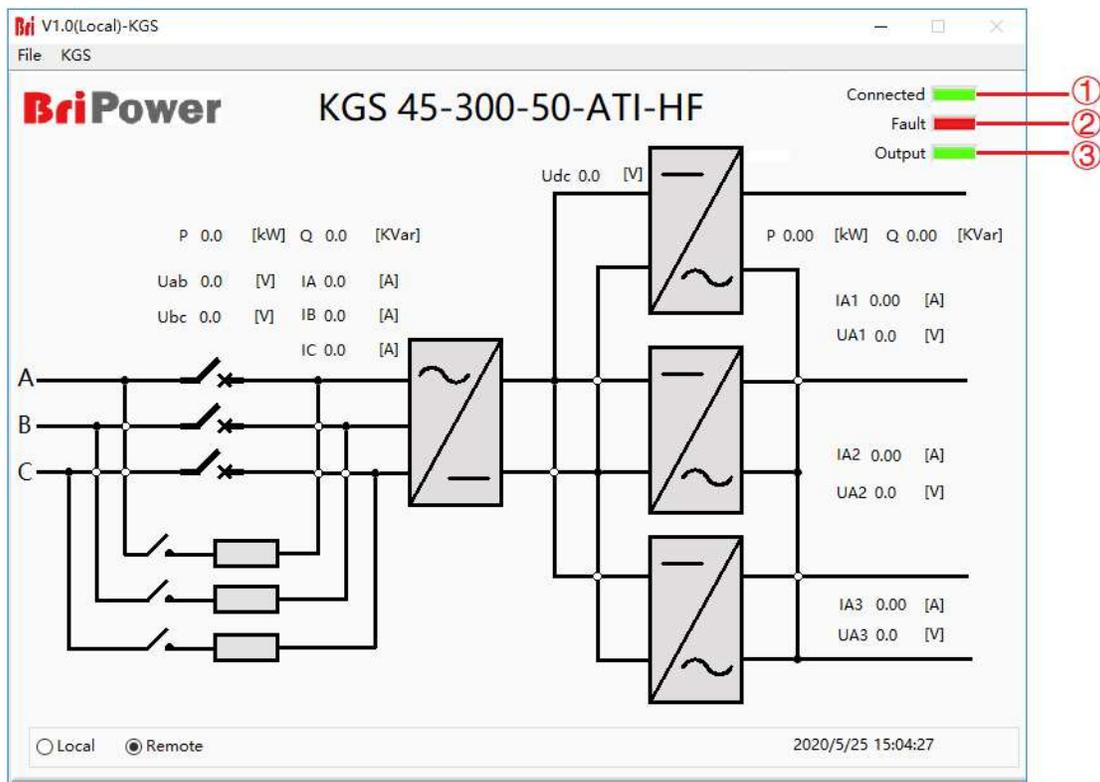

Figure 5-2 Sequence Mode and input/output control
①	Connect	A few seconds after the power supply is initialized, the TFT-Touch panel displayer workKGS, the green light is always on when the software and the equipment are connected normally. If the connection fails, please check whether the AC source is normally powered, the communication cable is connected normally, or the IP address of computer is 192.168.1.2.
②	Fault	The red light indicates the equipment automatically stops working when a fault occurs during operation. If the equipment runs in normal, the light is dark green.
③	Output	When equipment is operating normally and output AC/DC, the green light is always on. When the equipment has no output, the light is dark green.
On the right side of the sequence mode Panel, the user can select the power supply operating mode, parameter input mode and output mode according to the test requirements (Figure 5-2①②③).
There are some important controls on the sequence panel (Figure 5-2③). Click "Apply" → "Start" → "Power On" → "Start" → "Output On", the power supply is on, click "Output On" → "Stop" → "Power On" → "Stop", the power supply is off.